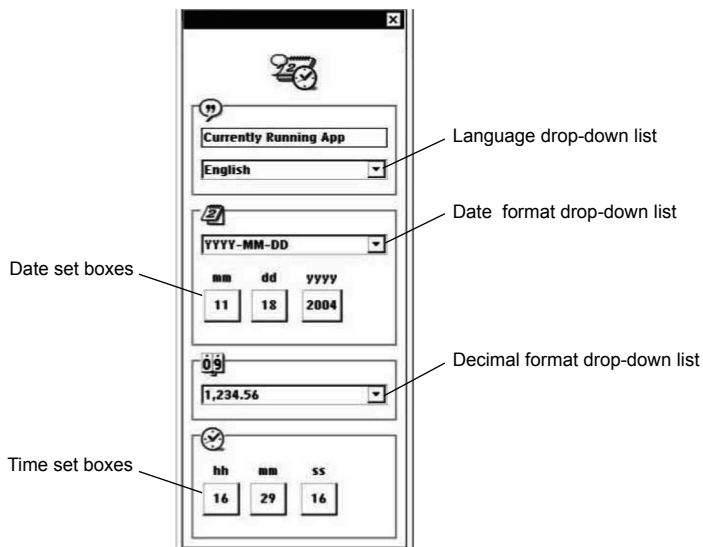

Figure 27. Localization screen.
3. Select a language, date, decimal, or time format option (Figure 27).